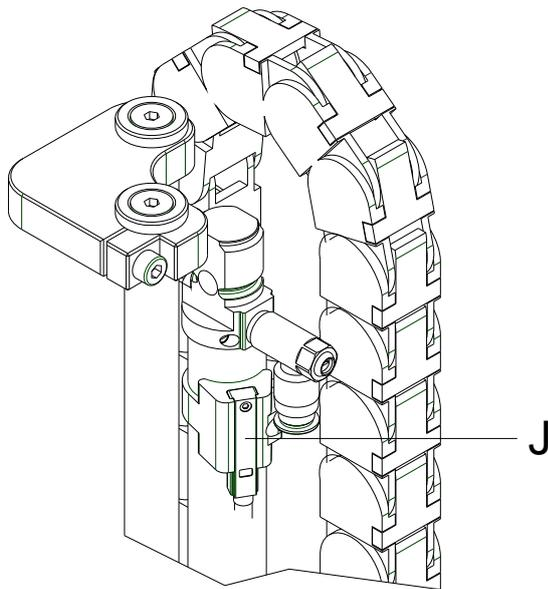

Figure 16
2. Loosen screws (C).
3. Remove sensor holder (D) with sensor (A).
4. Remove screws (B).
5. Remove the screws (G) in order to loosen the energy track (F) on one side.
6. Detach the T-shaped parts (I) hooked together from the U-shaped parts (H) of the energy track (see Figure 16).
7. Pull out the sensor (A) from the energy track (F).
8. Remove the plug (L) of sensor (A) from PCB (K).
9. Connect the new sensor (A) with PCB (K).
10. Insert the new sensor (A) in the energy track (F).
11. Close again the energy track (F). In order to do so, press the T-shaped parts (I) into the U-shaped parts (H).
12. Mount again the energy track (F) and tighten the screws (G).
13. Mount the sensor (A) with screws (B) at the sensor holder (F).
14. Install the sensor holder (D) with screws (C) at the guiding plate (E).